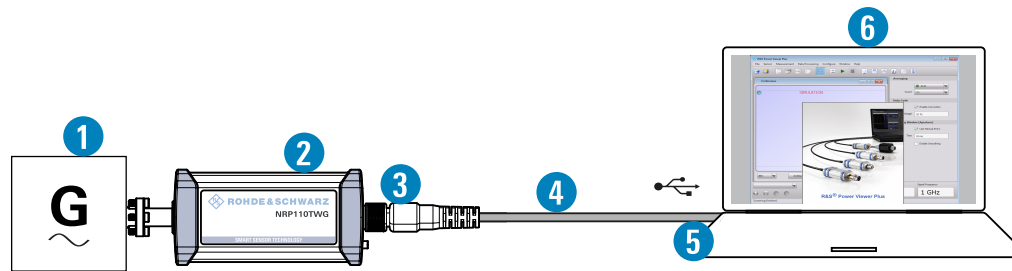

Figure 5-2: Setup with the R&S Power Viewer
1. Connect the cables as shown in Figure 5-2.